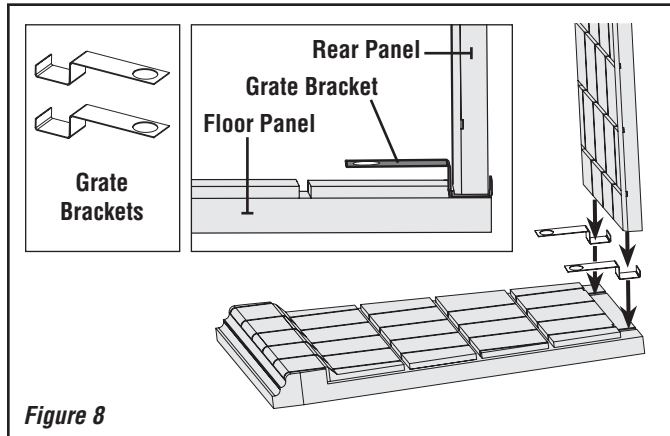

Figure 8
- 5.1. Refer to **Figure 8, below**. Place the two grate brackets in the indentations in the back recessed edge of the floor panel.
- 5.3. Place the **BOTTOM EDGE** of the rear panel on top of the two grate brackets (as shown in **Figure 8, above**) and push the rear panel back against the rear wall of the firebox.